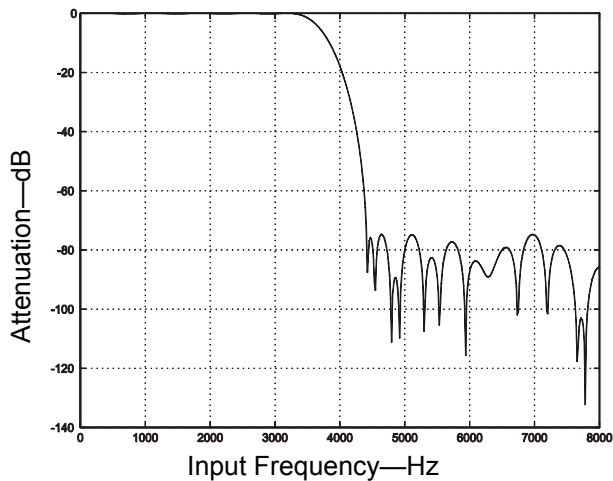

Figure 9. FIR Receive Filter Response
**Note:** Typical FIR filter characteristics for  $F_s = 8000$  Hz are shown in Figures 9, 10, 11, and 12.
For Figures 9–12, all filter plots apply to a sample rate of  $F_s = 8$  kHz. The filters scale with the sample rate as follows: